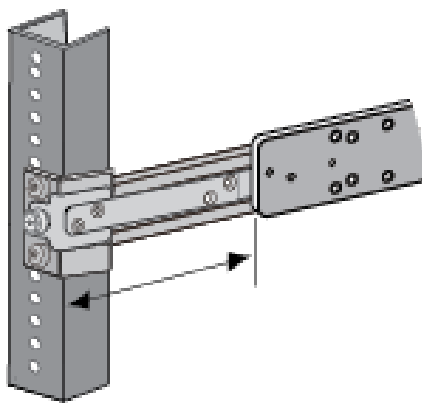

Figure 17. Verifying the Length of the Extension Bracket
5. Measure the distance from the front of the equipment rack to the front of the inner rail. Refer to Figure 17. This should approximately match the value you measured in “Measuring for the Extension Bracket Lengths” on page 27.